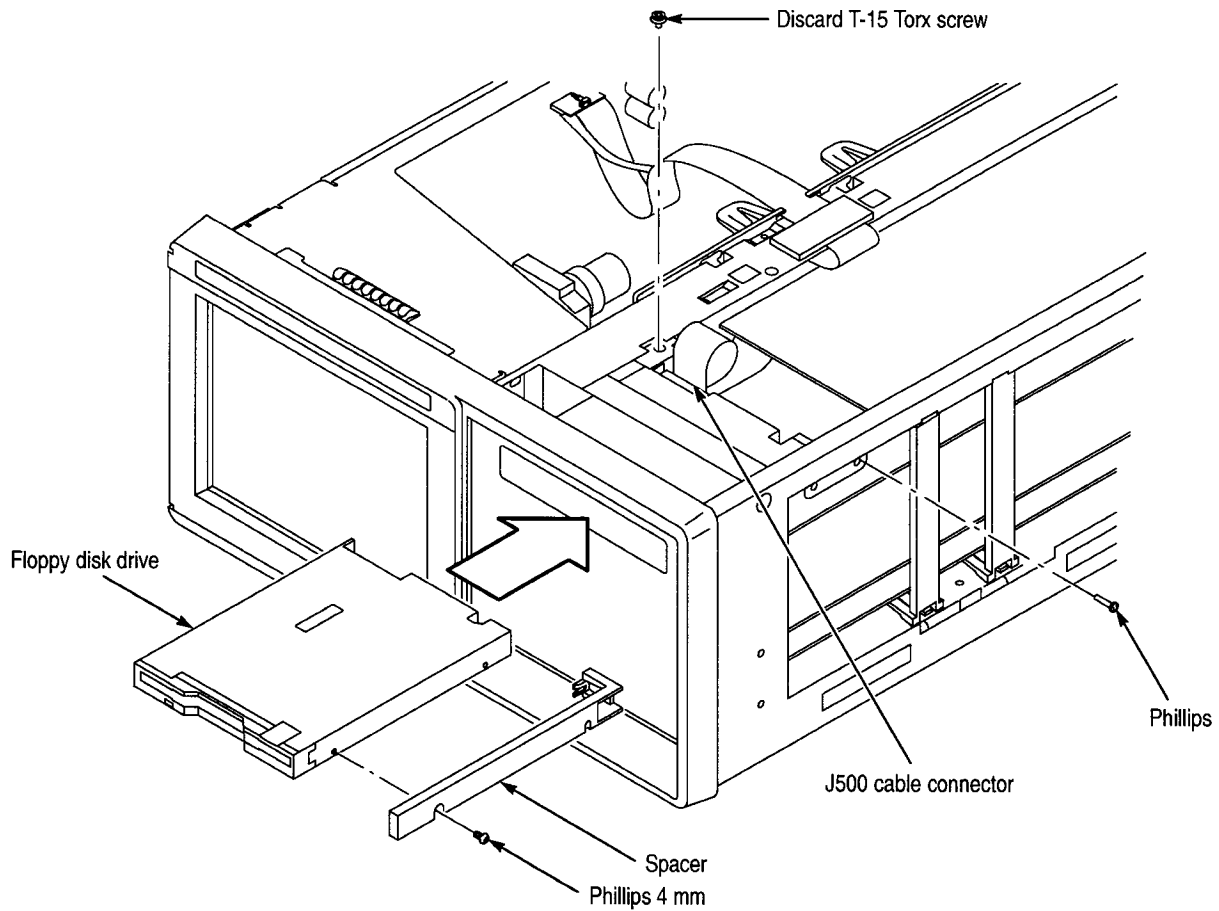

Figure 5: Disk drive installation
- a. Using a Phillips 4 mm screw removed in step 1, secure the spacer to the new disk drive. Install the Phillips 4 mm screw in the mounting hole nearest to the front of the disk drive (see Figure 5).
- c. Using a Phillips 10 mm screw, secure the disk drive assembly to the chassis. Install the Phillips 4 mm screw in the mounting hole nearest to the rear of the instrument (see Figure 5).
- e. If your disk drive contains a spacer, remove the 4 mm screw securing the spacer to the drive (see Figure 5). Set the screw aside for later reassembly of the new disk drive. Discard the drive.